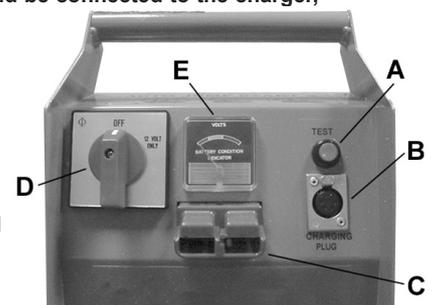
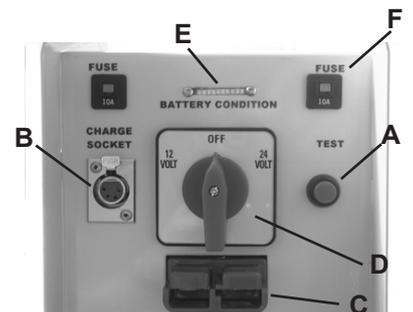

fig.1 Powerstart200
fig.2 Powerstart900
The charge level of the Powerstart200 and 350 can be seen at any time by pressing the test button (fig. 1.A) and noting the meter (fig.1.E) reading. When the needle is in the green sector the unit is fully charged and is ready to be used. The red sector indicates that immediate charging is required and the yellow sector indicates that recharging is advisable.
- 4.1.1. For the Powerstart500 and 900 models press and hold the test button, the LED's (fig.2.E) from left to right, four orange (low power) and six green will light up one by one and stop at the level of charge, the further to the right the higher the charge.
- 4.2.1. Ensure that the Powerstart control switch (fig.1.D) is in the 'Off' position.
- 4.2.3. Plug the charger cable into the charge input socket (fig.1.B) of the unit. The unit will now charge automatically and the charger LED's will indicate the level of charge. When the green 'Full' LED comes on, charging is complete but the charger should not be disconnected or switched off. Leave it connected to the Powerstart to ensure that the unit is fully charged when next required.
- 5.7. With the Powerstart control switch (fig.1.D & fig.2.D) set to 'Off' plug the leads into the socket (fig.1.C or fig.2.C).
- 5.8. **On models Powerstart350 Powerstart500 and Powerstart900 turn the control switch (fig.2.D) to select 12 or 24V to match the vehicle voltage.** On the Powerstart350 to select 24V the switch knob must be pulled out and then turned.
On model Powerstart 200 turn the switch (fig. 1.D) to select 12V.